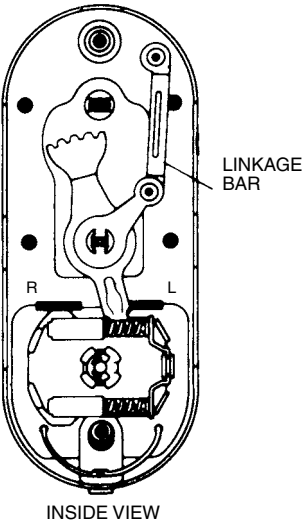

Figure 13.83 Changing hand, Step 14.
14. Install the linkage bar (Fig. 13.83).